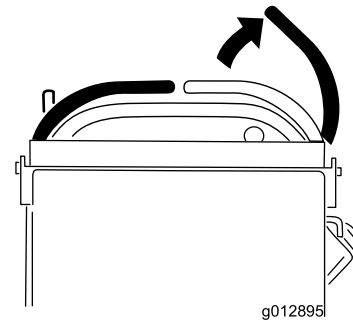

Figure 12
- Move the motion-control levers to neutral and move the right side motion-control lever into the neutral-lock position (Figure 12).